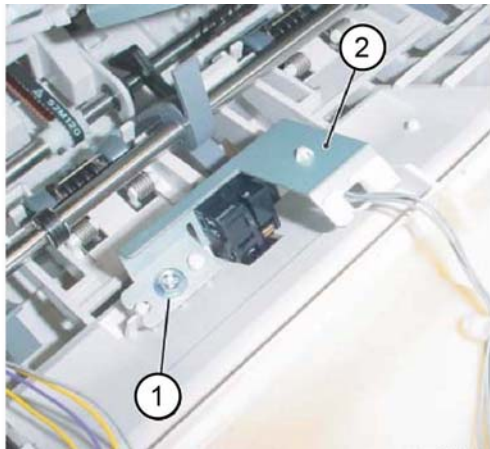

Figure 3 Compiler exit sensor assembly removal
6. Remove the compiler exit sensor assembly, Figure 3:
- a. Remove the screw (1).
- b. Remove the compiler exit sensor assembly (2).